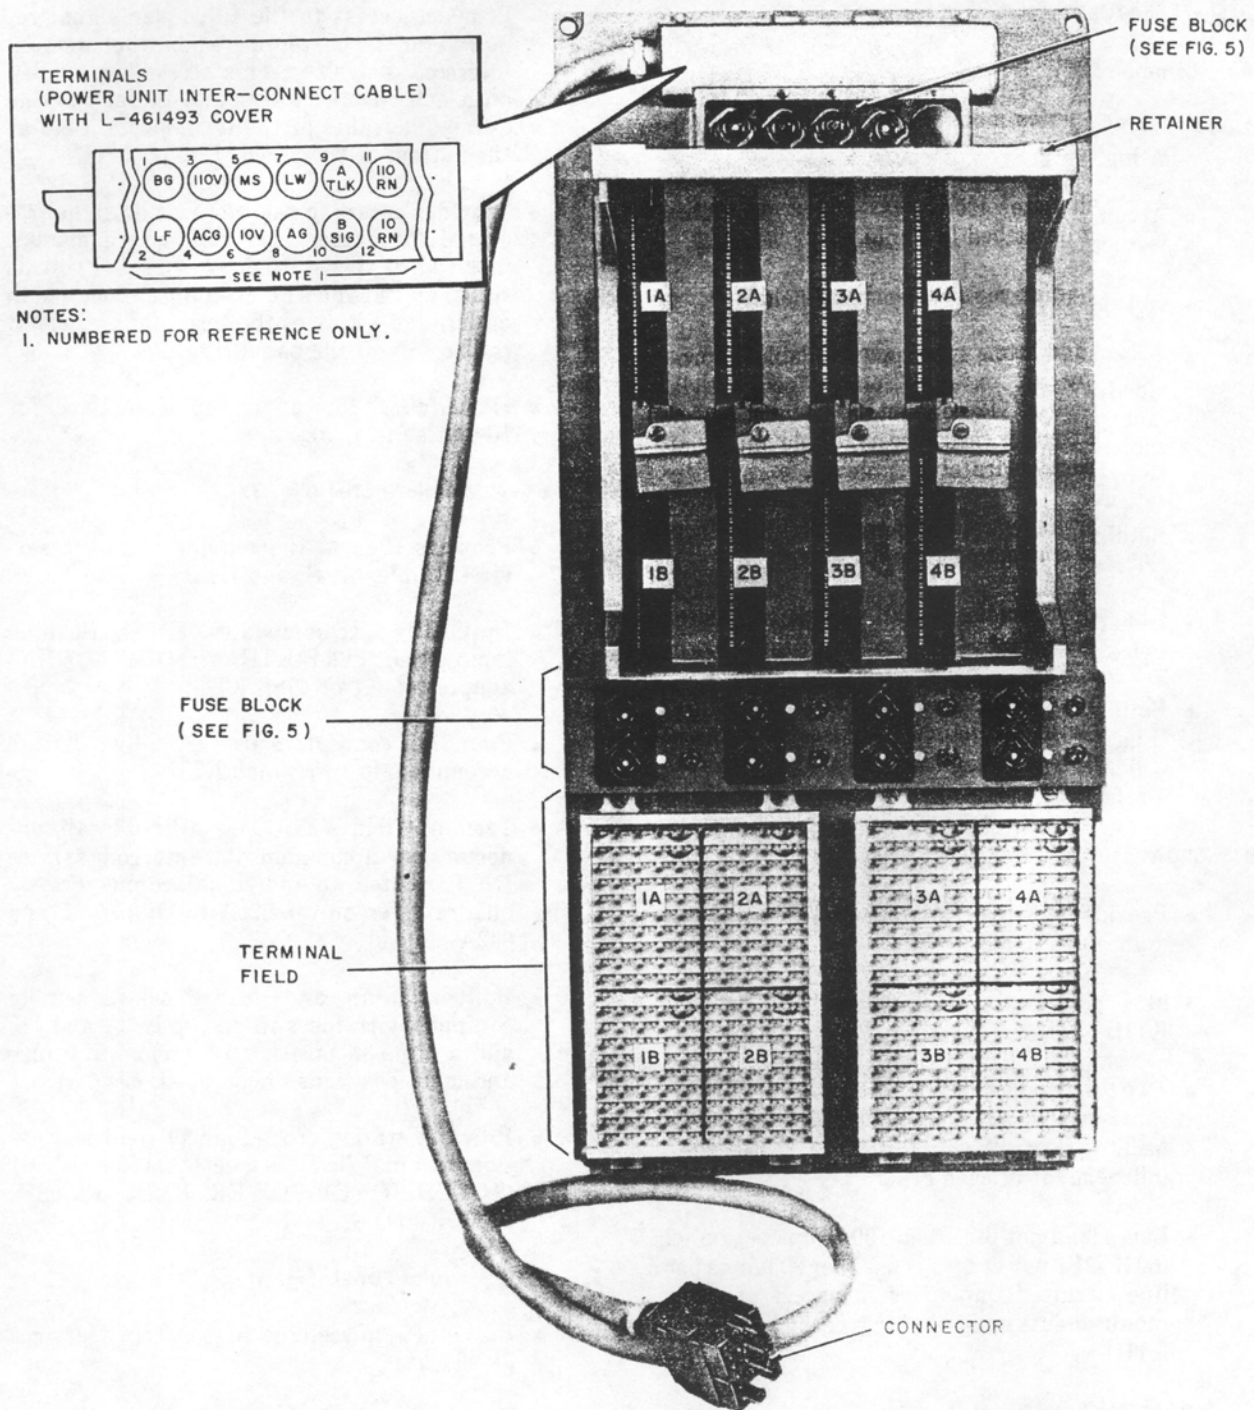

Fig. 1—620A2 Modular Panel
- Retainer and guide assembly serve to lock KTUs in connectors (Fig. 1).
**C. 620A2 Modular Panel (Fig. 1 and 2)**